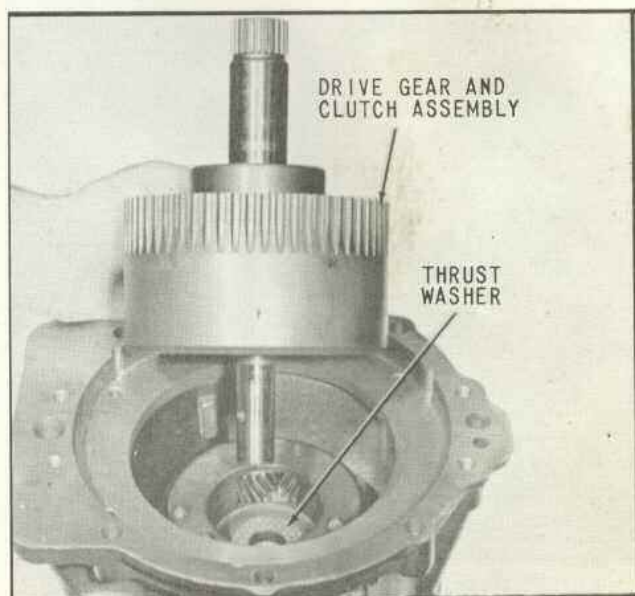

Fig. 53 Installing Drive Gear and Clutch Assembly
44. After lubricating the rear end of the drive gear and checking centered position of the thrust washer, install the drive gear and clutch assembly into the case and pinion cage and output shaft assembly, (Fig. 53). Care and proper centering must be exercised at this point to prevent damage to the bushings when the rear diameter of the drive gear enters the output shaft.